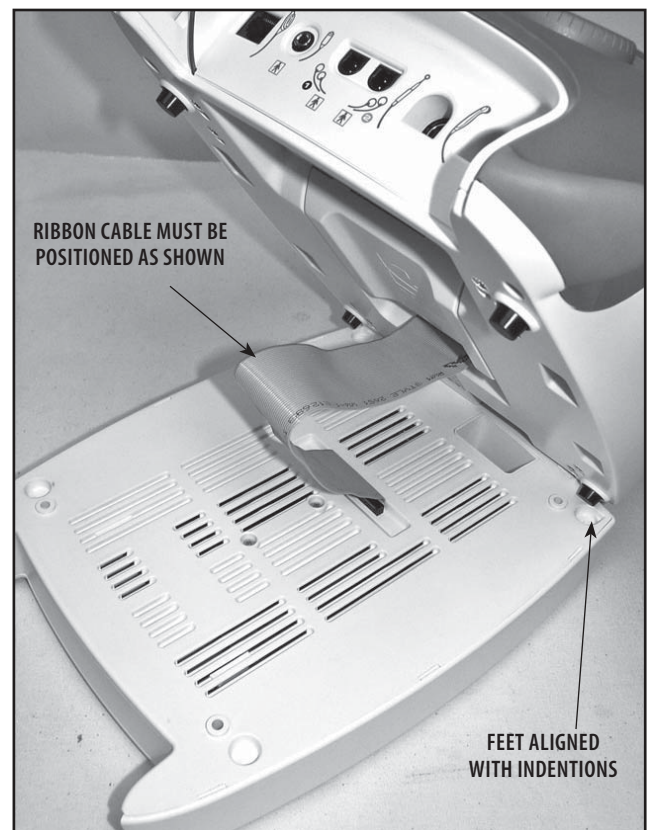

FIGURE 6.6
7. Position Therapy System over Module as shown in **Figure 6.6**. Align Therapy System Feet with Module Indentions. **RIBBON CABLE MUST BE POSITIONED AS SHOWN!**